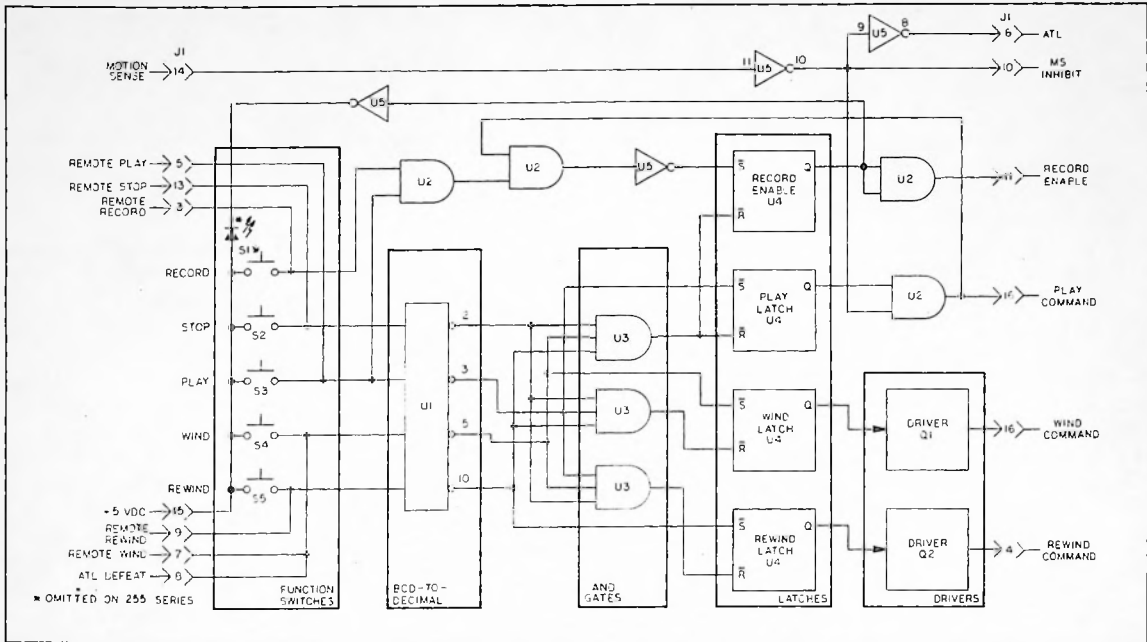

Figure 6-6. Control Logic Functional Block Diagram
6.31 The function of the Control Logic circuitry is to decode pushbutton switch commands from either a local or remote control assembly from BCD-to-decimal format, and to provide appropriate command signals to the Power Supply and Control PWA to initiate the function selected. The Control Logic PWA consists of: (1) BCD-to-decimal U1; (2) R-S latches U4; (3) AND gates U2,U3; (4) inverters U5; (5) drivers Q1,Q2; and associated components. Figure 6-6 shows a simplified functional block diagram of the Control Logic PWA.